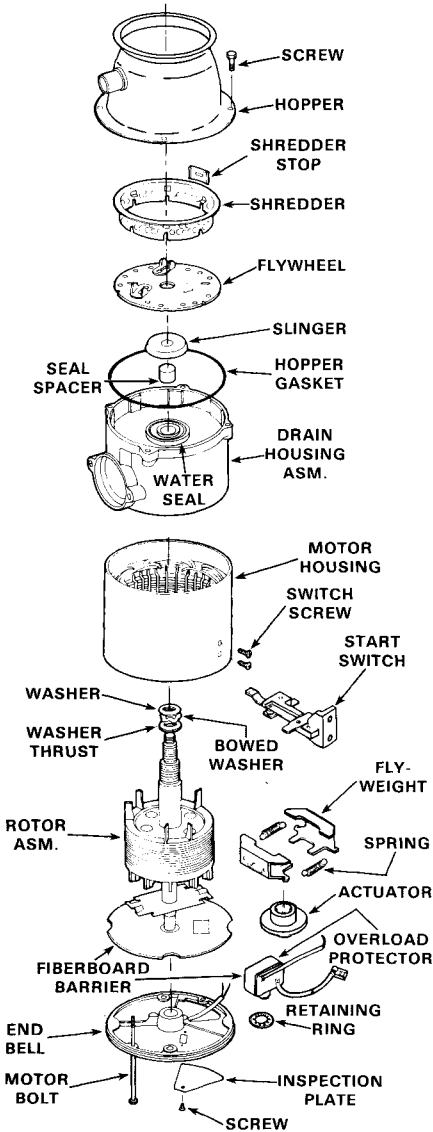

Figure 8 - GFC900 & GFB950 Parts Breakdown
2. Shredder ring lifts out. It is prevented from turning by a shredder stop that fits between ring and inside wall of plastic drain housing. Insert tab on shredder stop in one of top ring of holes in shredder top. Short end of shredder stop bears against one of projections on drain housing to prevent shredder from turning. Refer to Figure 8.